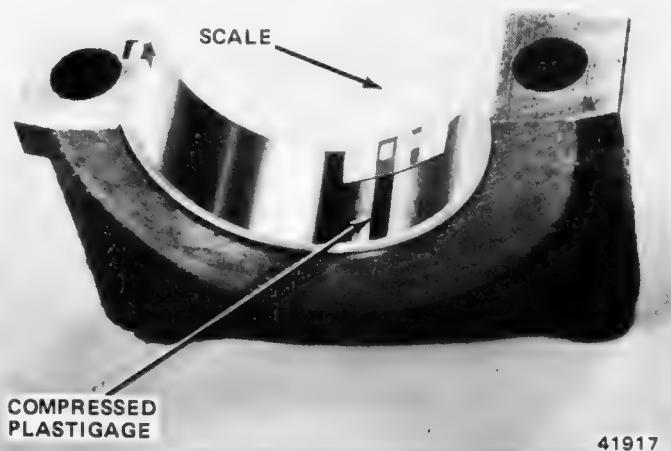

Fig. 1B-62 Checking Main Bearing Clearance with Plastigage
(1) Remove main bearing cap and insert.
(2) Clean insert and exposed portion of crankshaft journal.
(3) Place strip of Plastigage across full width of bearing insert.
(4) Install bearing cap and tighten screws to 79 newton-meters (58 foot-pounds) torque.
(5) Remove bearing cap and determine amount of clearance by measuring width of compressed Plastigage with scale on Plastigage envelope (fig. 1B-62). The Plastigage should maintain the same size across the entire width of the insert. If size varies, it may indicate a tapered journal or dirt trapped behind the insert.